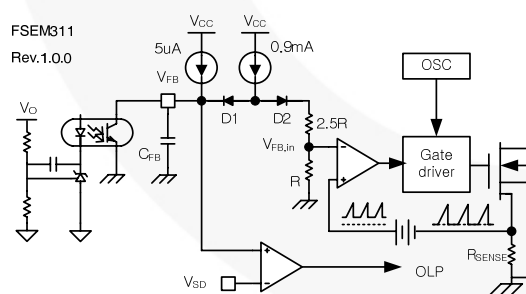

Figure 16. Pulse-Width-Modulation (PWM) Circuit
2. Feedback Control: The FSEM311 employs current mode control, as shown in Figure 16. An opto-coupler (such as the H11A817A) and shunt regulator (such as the KA431) are typically used to implement the feedback network. Comparing the feedback voltage with the voltage across the R_{SENSE} resistor plus an offset voltage makes it possible to control the switching duty cycle. When the KA431 reference pin voltage exceeds the internal reference voltage of 2.5V, the opto-coupler LED current increases, the feedback voltage V_{FB} is pulled down and it reduces the duty cycle. This event typically happens when the input voltage is increased or the output load is decreased.
4.3 Over Voltage Protection (OVP): In the event of a malfunction in the secondary side feedback circuit, or an open feedback loop caused by a soldering defect, the current through the opto-coupler transistor becomes almost zero (refer to Figure 16). Then, V_{FB} climbs up in a similar manner to the over load situation, forcing the preset maximum current to be supplied to the SMPS until the over load protection is activated. Because excess energy is provided to the output, the output voltage may exceed the rated voltage before the over load protection is activated, resulting in the breakdown of the devices in the secondary side. In order to prevent this situation, an over voltage protection (OVP) circuit is employed. In general, V_{CC} is proportional to the output voltage and the FPS uses V_{CC} instead of directly monitoring the output voltage. If V_{CC} exceeds 19V, OVP circuit is activated resulting in termination of the switching operation. In order to avoid undesired activation of OVP during normal operation, V_{CC} should be properly designed to be below 19V.